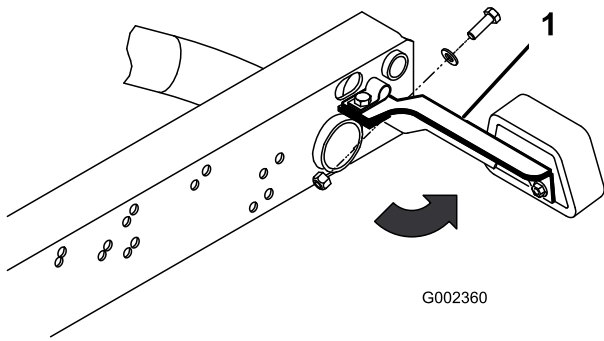

Figure 3
1. Loosen the locknuts and bolts securing tail light brackets to right and left frame brackets (Figure 3).
3. Secure rear of each tail light bracket to rear of frame brackets with a 5/16 x 1 in. bolt, .344" I.D. flatwasher and locknut, as shown in Figure 3.